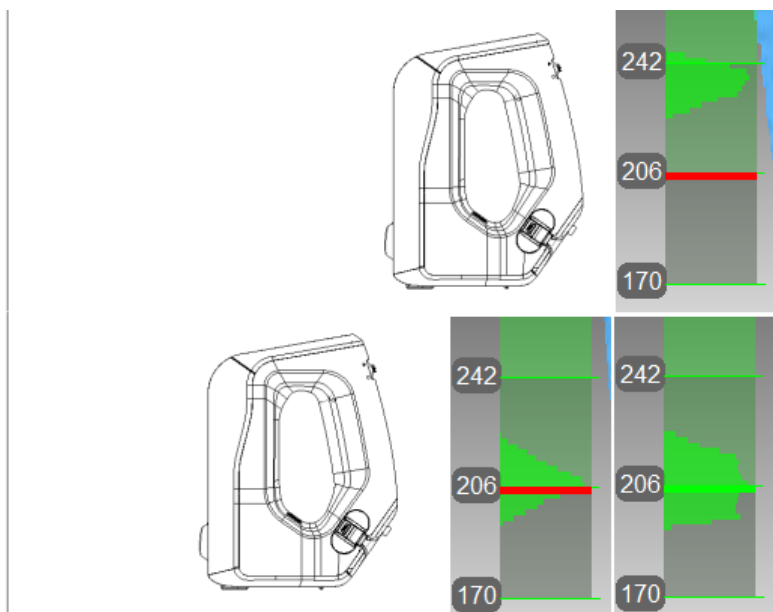

Figure 11.4: Artec Spider scanner's position and corresponding distance on the range meter.
7. Move the scanner smoothly toward the flat surface such that the histogram peak coincides with the red mark on the range meter (see Figure 11.4).